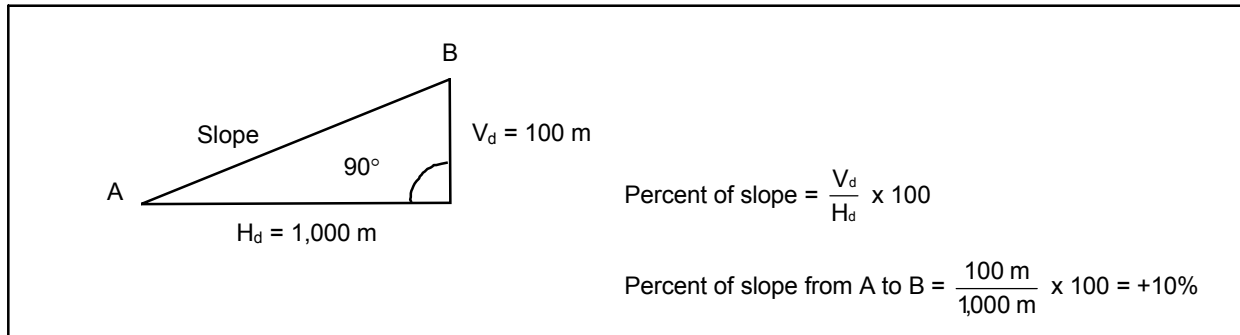

Figure 1-2. Percent-of-Slope Formula
b. When a clinometer is not available, use the percent-of-slope formula as shown in *Figure 1-2* along with the map or the pace method to find the correct values for the vertical and horizontal distance. The vertical distance (V_d) and the horizontal distance (H_d) must always be expressed in the same unit of measure.